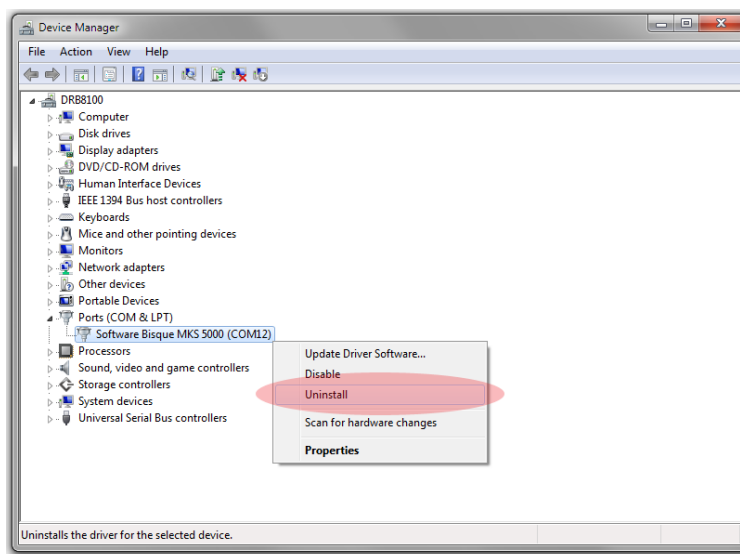

Figure 94: Uninstalling the MKS 5000 driver from the Device Manager.
- Choose the **Uninstall** command from the pop-up menu (Figure 94).